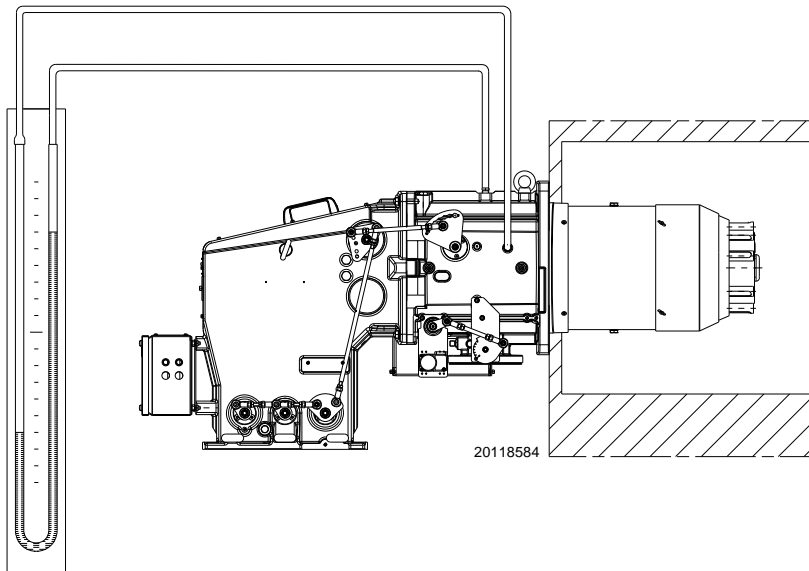

Fig. 24
- Fit a U-type pressure gauge or a differential pressure gauge (Fig. 24), with socket (+) on the gas pressure of the pipe coupling and (-) in the combustion chamber.
The arrival of gas at the pipe coupling is evidenced by the U-shaped pressure gauge (Fig. 24) or else with the aid of a digital pressure gauge placed on the pressure test point under the coupling.